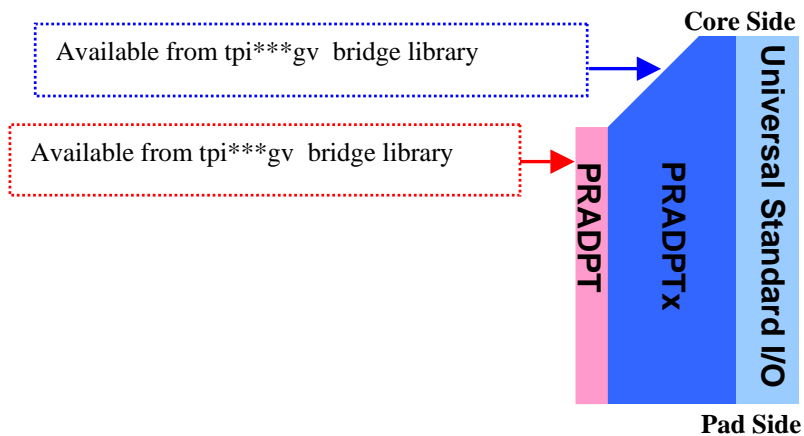

Figure 7.16 Place PRADPT Cell Next To The Other Side of PRADPTx Cell
Step 3: For PRADPTx adapter cell, place the other side right next to the PRADPT universal adapter cell as illustrated in *Figure 7.16*.